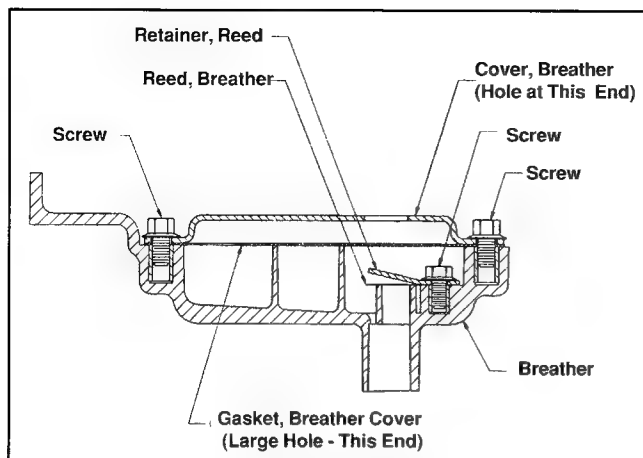

Figure 11-19. Crankcase Breather Components.
2. Install breather reed and reed retainer in breather housing and secure with hex. flange screw. Tighten screw to **4.0 N·m (35 in. lbs.)** torque. See Figure 11-19.
8. Position new breather cover gasket with large hole toward the flywheel end of the engine. See Figure 11-19.